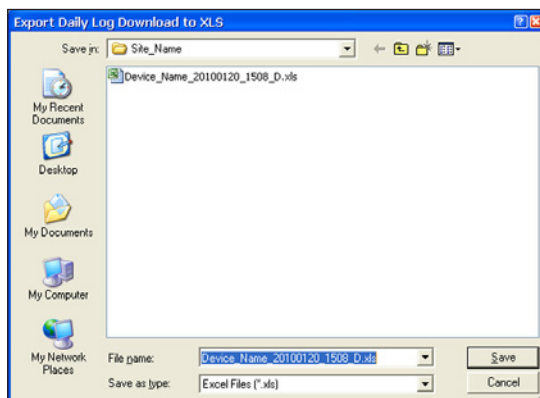

Figure 14.28
- An Export... window will appear (Figure 14.28). To change the file path and/or file name from the defaults listed below, browse to the desired file path and/or type the desired entry in the field provided. See Log Directory and Filenames, page A-22 for more information.